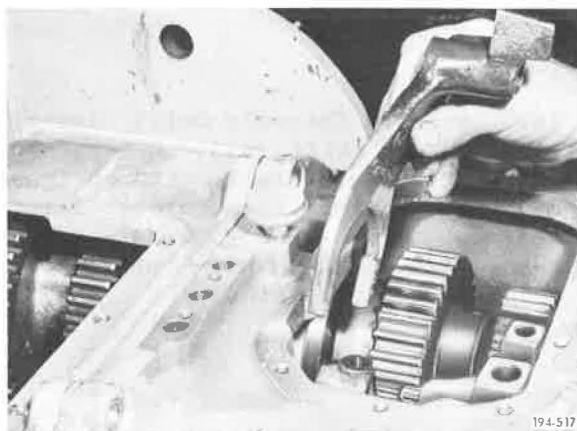

Figure 397. Installing Shift Fork
13. Install first speed shift fork onto first speed sliding clutch. See Figure 397.